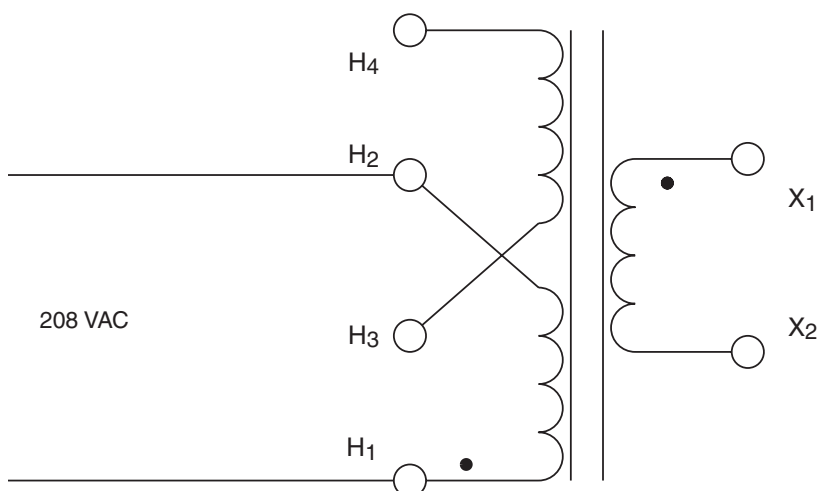
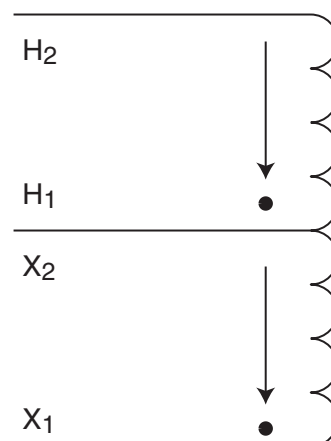

Figure 21-14 Placing polarity dots on the transformer windings.
Figure 21-15 Determining the placement of polarity dots.
22. Figure 21-14 shows the proper location for the placement of polarity dots. Recall that polarity dots are used to indicate which windings of a transformer have the same polarity at the same time. To better understand how the dots are placed, redraw the two transformer windings in a series connection as shown in Figure 21-15. Place a dot beside